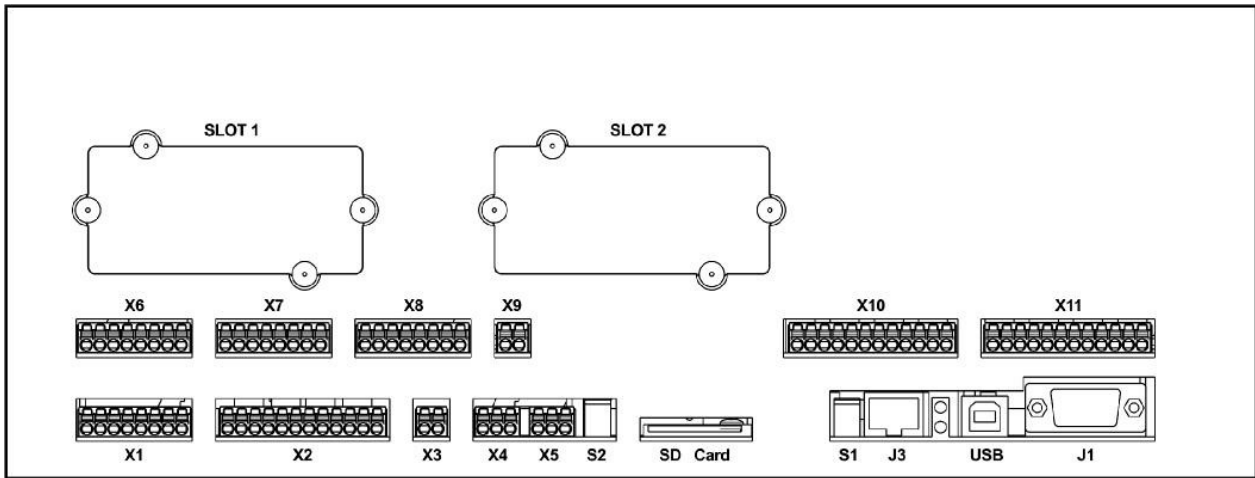

**Figure 9.1 External interface facilities**
A communications panel located near the top of the distribution frame contains a number of interface facilities that can be divided into three functional areas, as depicted in Figure 9.1.
- The communications interface provides various I/O control and monitoring connections that can be used to interface the UPS with a local network, building management system or a simple remote alarms/power off facility. The connectors shown in this area of Figure 9.1 are attached to two circuit boards that are fitted behind the panel; however, as the function of the two boards is similar they are jointly referred to as the communications interface board in this manual.